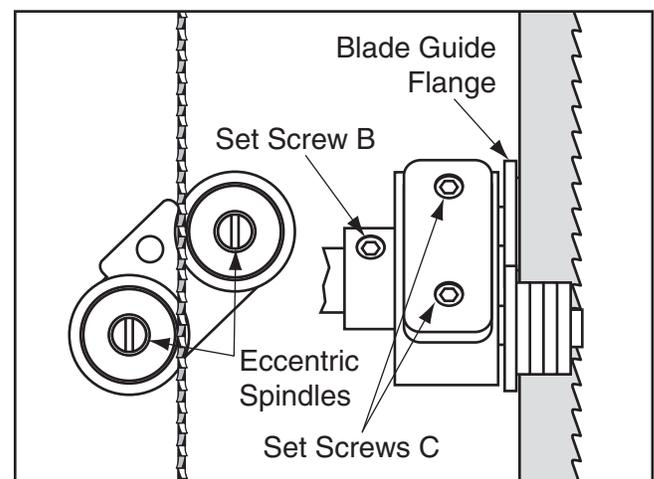

Figure 40. Blade guide positioning.
6. Rotate the blade guide assembly and apply just enough pressure to hold the blade flat against both guide rollers. Rotate the eccentric spindles so their slots are oriented vertically, as shown in **Figure 40**. This positions the blade guides in the center of their range of motion to facilitate later adjustments.
- While still holding the blade guide assembly in position as described in **Step 6**, slide the blade guide assembly in or out as necessary so the roller guide flange is directly behind, but not touching the back of the blade, then tighten set screw B (**Figure 40**).